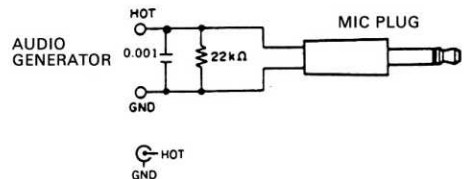

Figure 4-14
- Insert a micro-plug configured as shown in Figure 4-14 into the EXT MIC jack. Then input a 1 kHz, 60 mV sine wave from the AG.
- c) Insert a micro-plug configured as shown in Figure 4-14 into the EXT MIC jack. Transmit the AG output at 0 mV.
- d) Insert a micro-plug configured as shown in Figure 4-14 into the EXT MIC jack. Transmit the AG output at 0 mV.